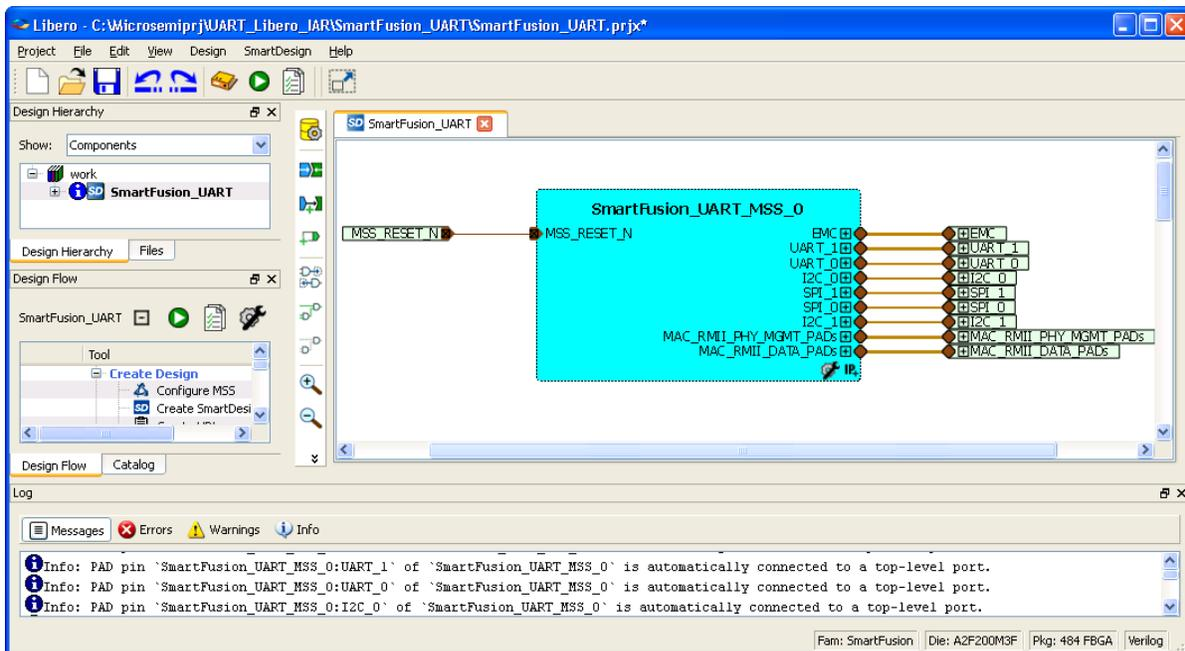

Figure 4 · The Libero SoC Window After Completing New Project Wizard
6. The project is created and the Libero SoC window appears, as shown in Figure 4 . . The SmartDesign “SmartFusion_UART” is created with the instantiation of the MSS component.